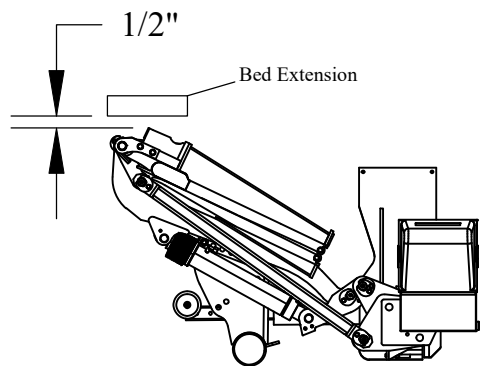

Figure 9: Stowed Position.
- Step 1. **Position** the platform in the stowed position, leaving a gap of 1/2" between the closed platform and the under structure of the Bed Extension (Figure 9).